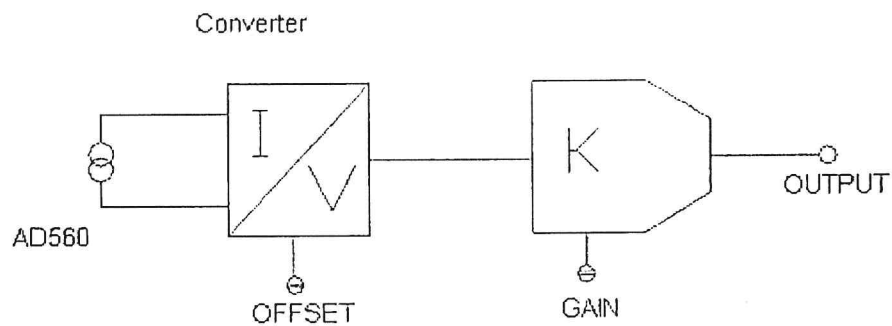

Figure 3: AD560 conditioning circuit temperature sensor
An AD560 integrated circuit (IC) is used in a temperature measurement system, accompanied by a signal conditioning circuit as shown in Figure 3. The sensor produces an output of $2 \mu\text{A}/^\circ\text{K}$ and is connected to a current-to-voltage converter with a sensitivity of $5 \text{ mV}/\mu\text{A}$. The system is required to operate over a temperature range from -15°C to 120°C , corresponding to an output voltage range of 0 V to 10 V .